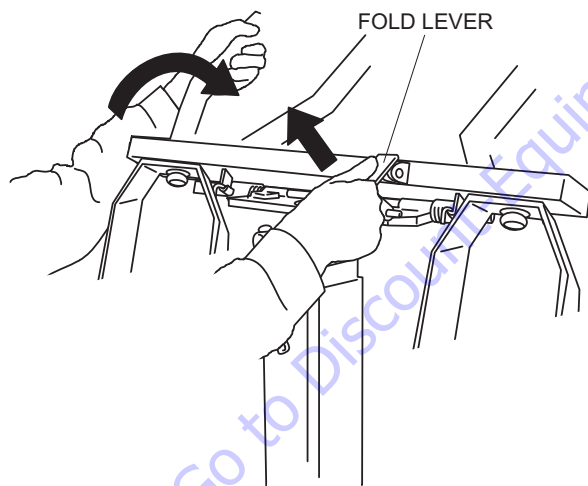

Figure 18. Fold Lever
3. Holding the lighting unit with one hand, pull up the fold lever with the other hand (Figure 18).